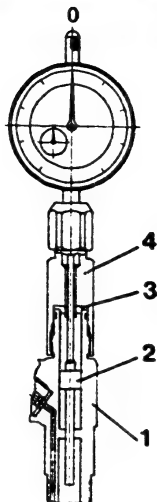

Fig. 5
4. Position the connector assembly (with dial gauge) as shown in Figure 5, and tighten it using a torque spanner. Then adjust the dial gauge to "0".